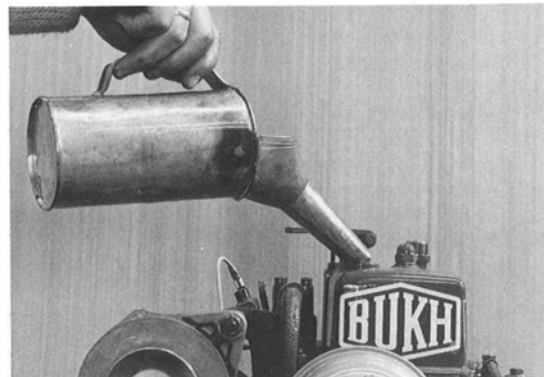

Fig. 5
1. Pour lubricating oil through filling hole on top of valve cover. (Fig. 5.)